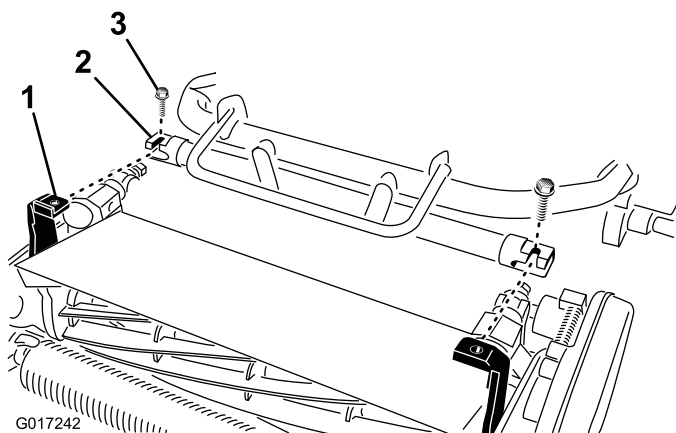

Figure 6
4. Maneuver the traction unit frame (Figure 6) forward until it engages the cutting unit pivot arms.
5. Secure the traction unit frame to the cutting unit pivot arms with 2 bolts (3/8 x 3/4 inch) (Figure 6).